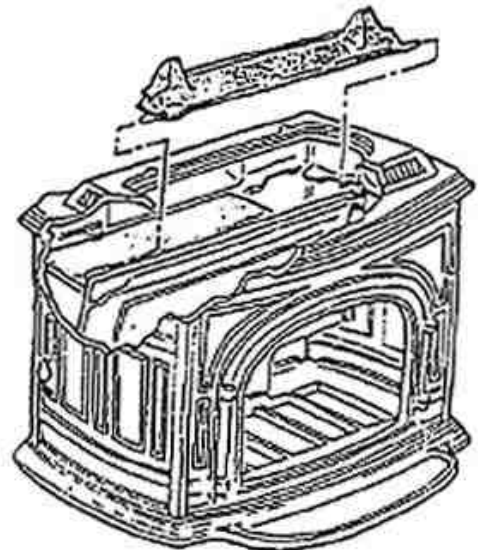

FIG. 2. REMOVE DAMPER and SMOKESHELF
- Slide the damper to the right, angle it up and back to clear a small ridge in the back plate. Disengage the damper shaft from the left end then swing it in front of the upper fireback and angle the damper out through the front door opening. (Fig. 2).